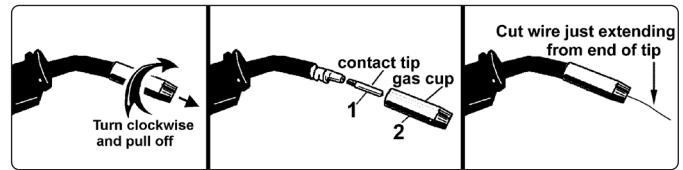

fig.7
- d) Unscrew copper contact tip (right hand thread) to remove (fig.7).
12.4. CONTACT TIP The contact tip is a consumable item and must be replaced when the hole becomes enlarged or oval. The contact tip MUST be kept free from spatter to ensure an unimpeded flow of gas. Refer to fig.7 and section 7 for removal and replacement.